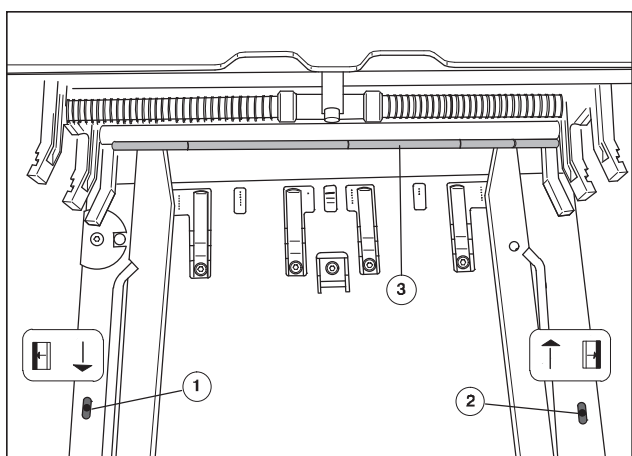

Fig. 10 Lateral sheet alignment
The sheet to be printed is aligned laterally towards D.S. or O.S. with a pull rod fitted with rubber rings (Fig. 10/3).
1. Put the operator tool through the oblong holes into the borehole of the shaft on O.S. (Fig. 10/1) or D.S. (Fig. 10/2) and turn the shaft upwards or downwards according to the two signs.
downwards	towards O.S. (Fig. 10/1)
upwards	towards D.S. (Fig. 10/2)